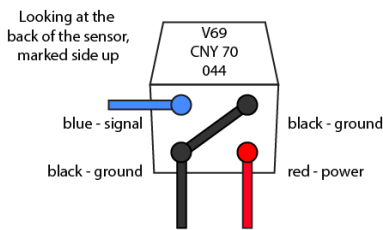

Fig. 10. Wiring the CNY70.
- Following the schematic below, and having the sensor with the legs pointing to you and with the marked side up, bend the top right leg towards the low left leg and solder them together (**Fig. 10**, black line).